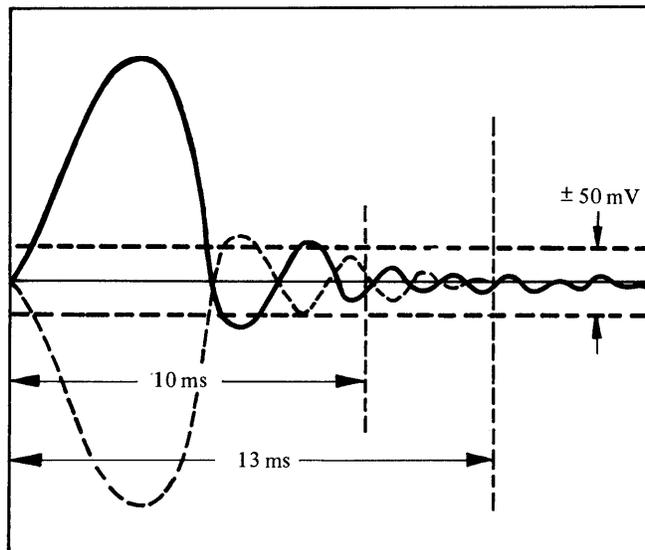

Figure 4-9. Servo Settle Time
14. Obtain the trace shown in figure 4-9. This signal is the output from the Detent Amplifier Circuits. As the positioner locates itself over the desired track, an overshoot occurs as the servo goes into DETENT. This overshoot is then compensated for by amplified feedback from the detent circuits, and the carriage therefore oscillates slightly for a period of time. It is important that this 'settle time' should be minimised, as excessive carriage oscillation can cause errors.